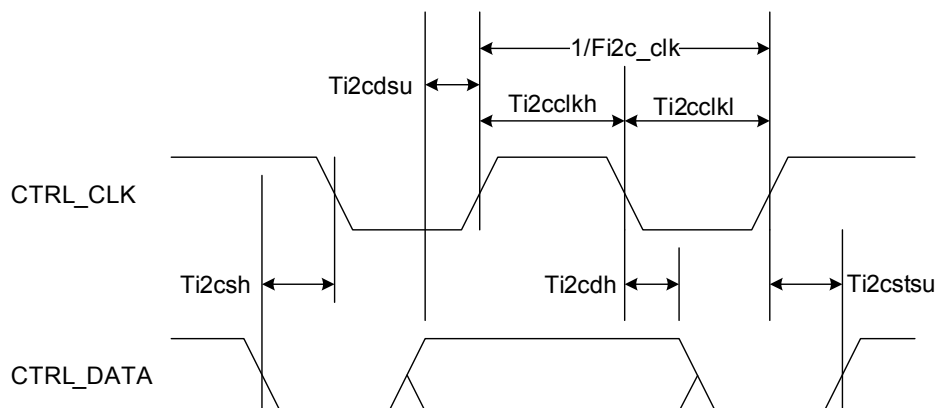

Figure 5. I2C Timing ( $CTRL\_MODE == 0$ )
I2C BUS TIMING (3) See <a href="#">Figure 5</a> .